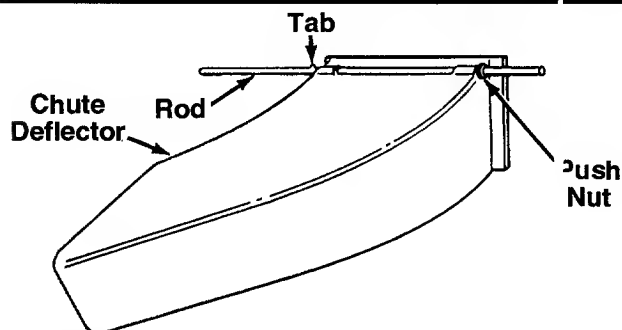

FIGURE 16.
1. Slide the rod into the upper edge of the chute deflector so the welded tab on the rod is toward the left side of the chute deflector. When assembled correctly, the rod will extend further to the left side than the right side. See figure 16.